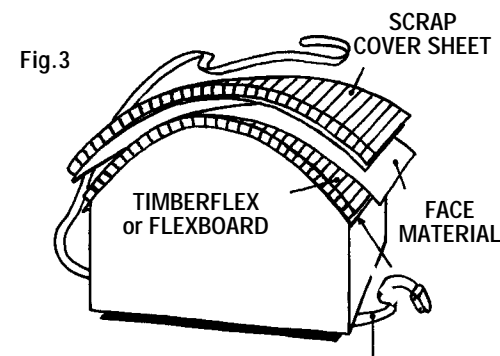

Fig. 3
7. Use a scrap piece of **Timberflex** or **Flexboard** to place over the face to help distribute the pressure evenly over the door. Strap this assembly in place with belt clamps. The use of a scrap piece of wood at the vertical edges of the assembly is recommended to help provide adequate pressure on these critical edges. Allow the glue to dry as recommended by the manufacturer. The overhang edges can be trimmed using a hand router. (Fig. 3)